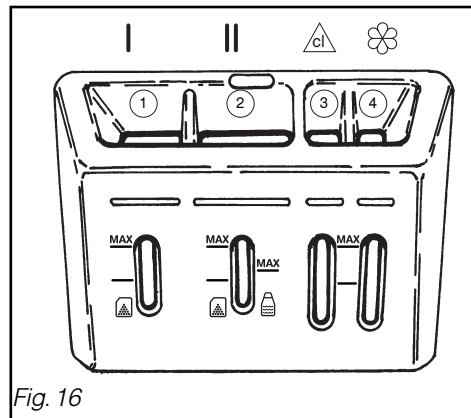

Fig. 16
• **LOADING DETERGENTS (Fig. 16)**